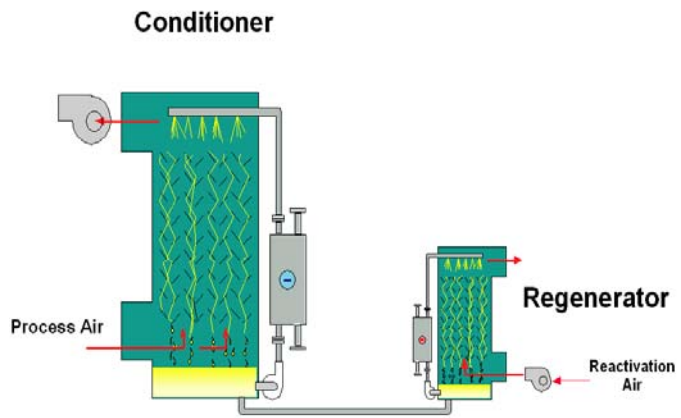

Figure 2-10 Liquid Desiccant
- 2) **Liquid Desiccant** (*Figure 2-10*)